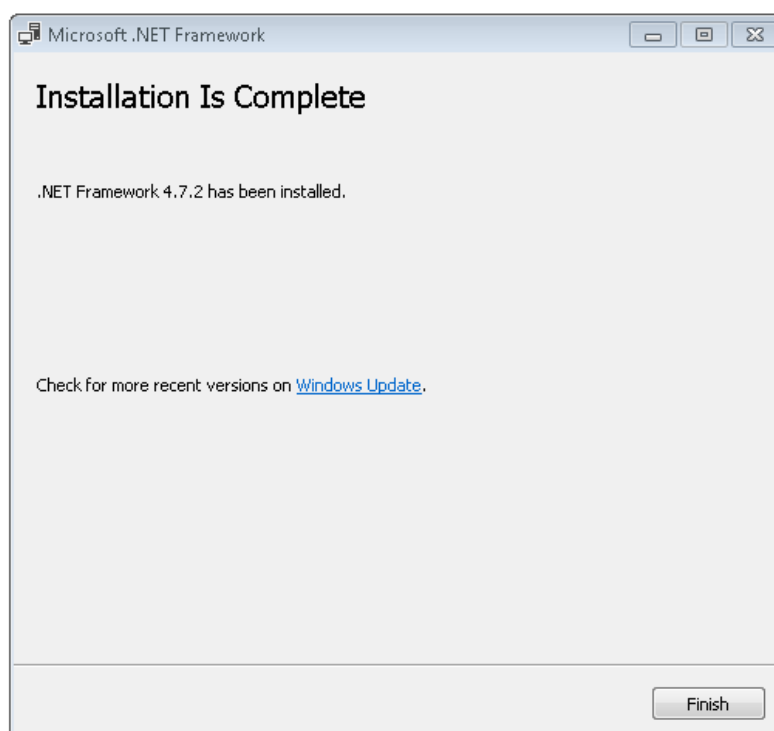

**Figure 10**
- \* A series of windows will be displayed as files are extracted, followed by the .NET logo and **.NET Framework 4.7.2 Setup** window. See Figure 10 and Figure 11 below: